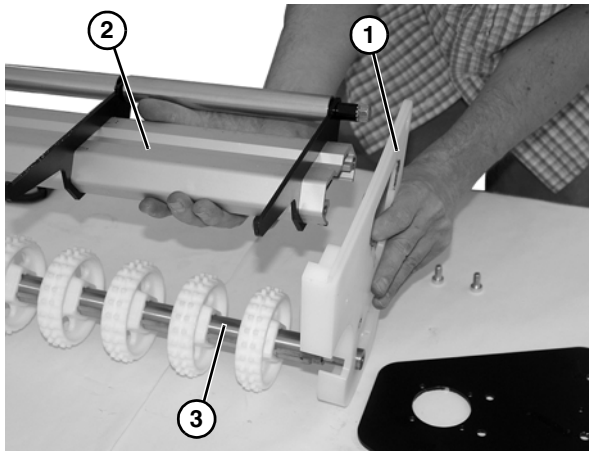

Figure 53
12. Remove terminal assembly (**Figure 53, item 1**) from crossmember (**Figure 53, item 2**) and drive spindle (**Figure 53, item 3**). Inspect and replace if worn.